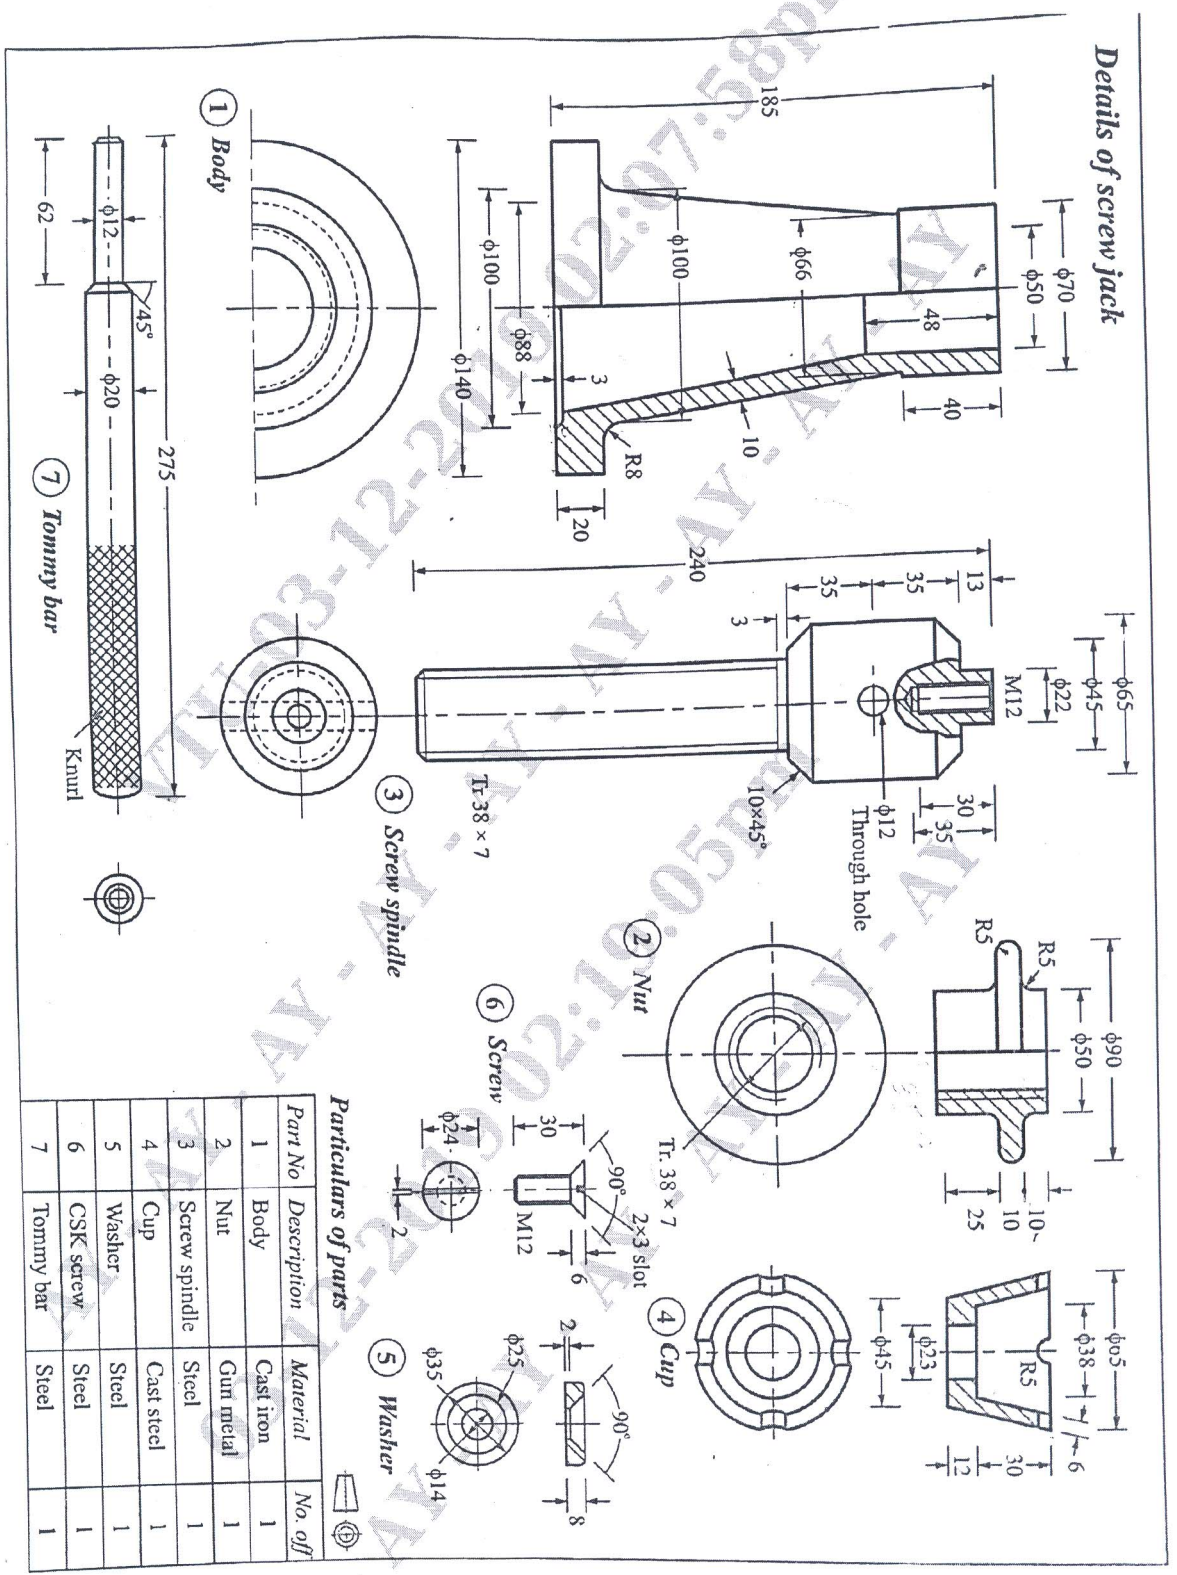

Figure 2: Details of Screw Jack
- Q. No. 6** Figure:2 Shows the details of "Screw Jack". Assemble the parts and draw the following: a) Sectional front view b) Top view **(50 Marks)**